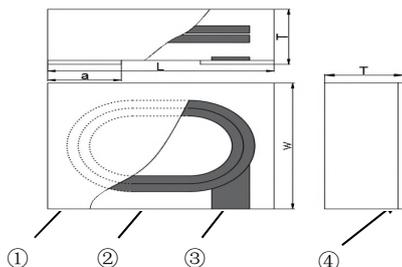
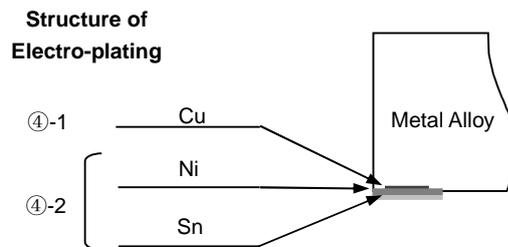

Fig. 4-3
Fig. 4-4
4.2 Structure: See Fig. 4-3 and Fig. 4-4.